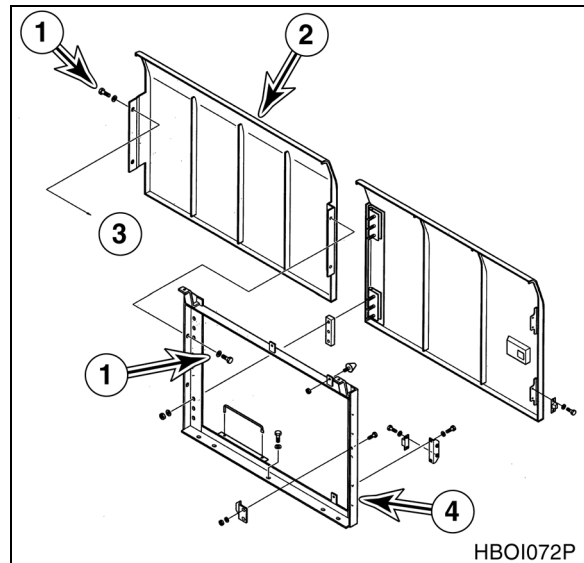

Figure 10
20. Remove four bolts and washers (1, Figure 10) and cover (2) from fuel tank (3) and support (4).